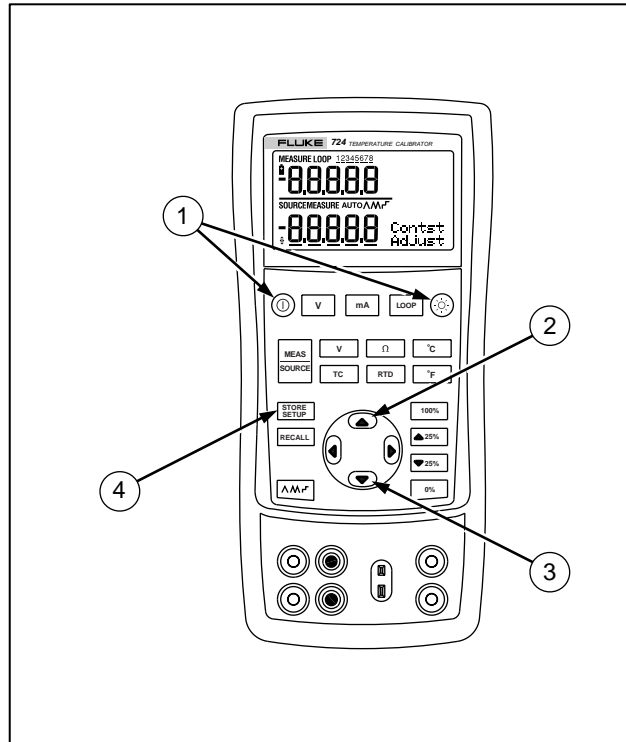

Figure 6. Adjusting the Contrast
1. Press **⊙** and **⊕** until Contst Adjust is displayed as shown in Figure 6.